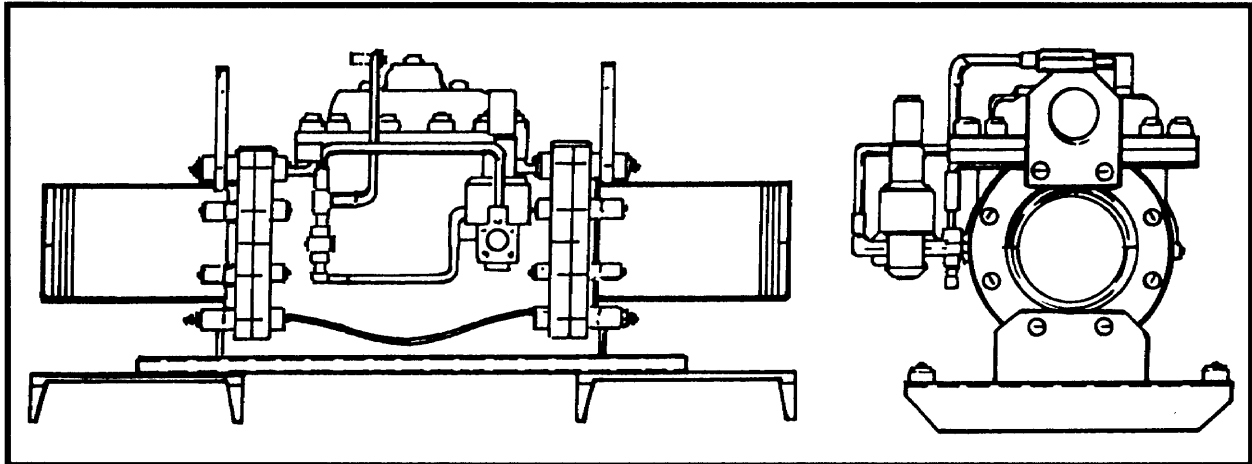

Figure 2-11. Pressure-control valve (6-inch)
(9) Pressure-Control Valve (30 psi). This valve (Figure 2-11) is a back-pressure relief/regulator. The back-pressure controllers are installed in the recirculating hose lines from the fuel-dispensing assembly back to the tankage to maintain dispensing pressure of 30 psi (maximum). The valve is supplied as part of the fuel-dispensing assembly.